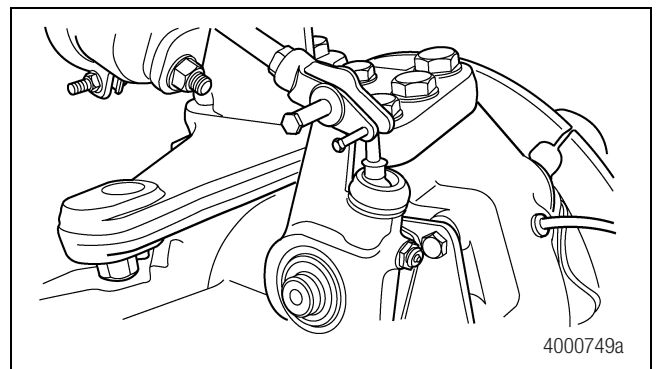

Figure 4.22
5. Remove the pins that engage the push rod yoke and the slack adjuster. Remove the slack adjuster from the camshaft. Figure 4.22.